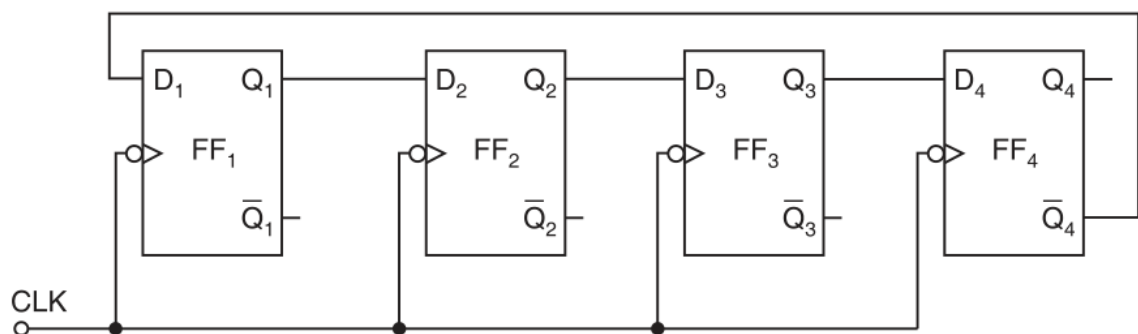

Figure 12.61 Logic diagram of a 4-bit twisted ring counter using D flip-flops.
2. The 4-Bit Johnson Counter (Twisted-Ring Counter) (Kumar, p. 698, Figure 12.61)
The logic diagram of a 4-bit Johnson counter using D FFs is shown in Figure 12.61. A realization of the same using J-K FFs is shown in Figure 12.62. The state diagram and the truth table are shown in Figure 12.63. The timing diagram of a Johnson counter is shown in Figure 12.64.